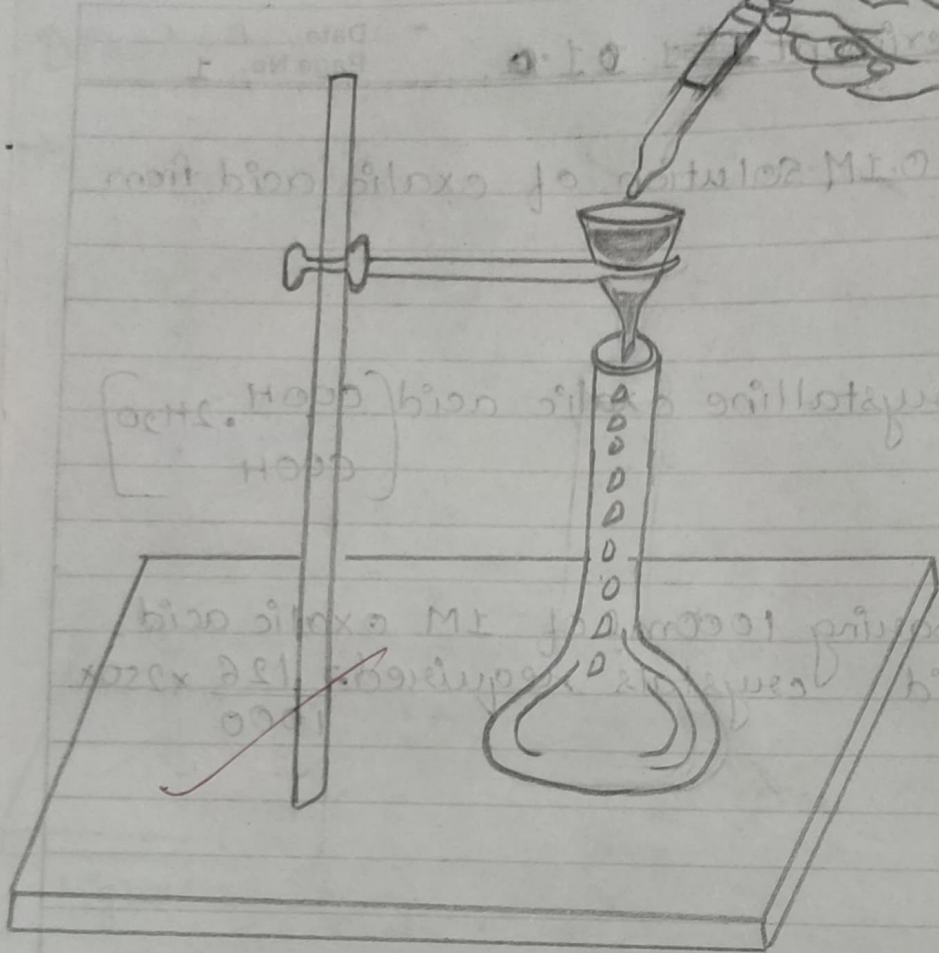

Figure 11.16 Adding last.
8) Add the last few drops of distilled water with a pipette or a dropper until the lower level of the meniscus just touches the mark on the measuring flask [fig. 11.16]